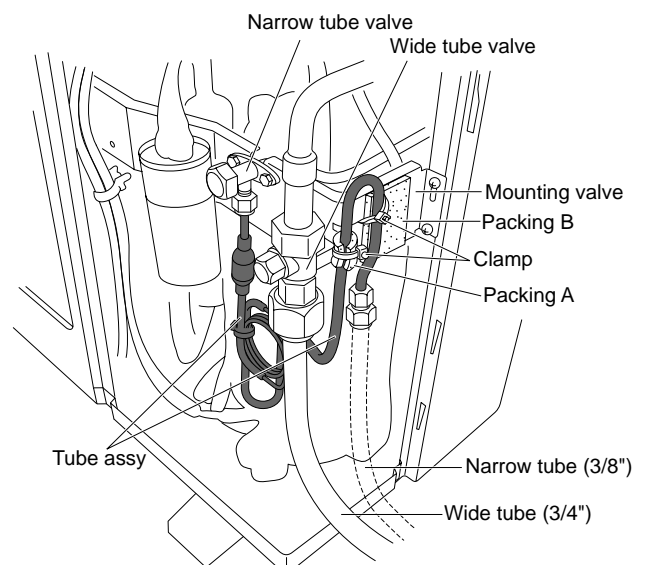

Fig. 31a
1. Connect a wide tube (3/4") to the wide tube valve. (Fig. 31a)